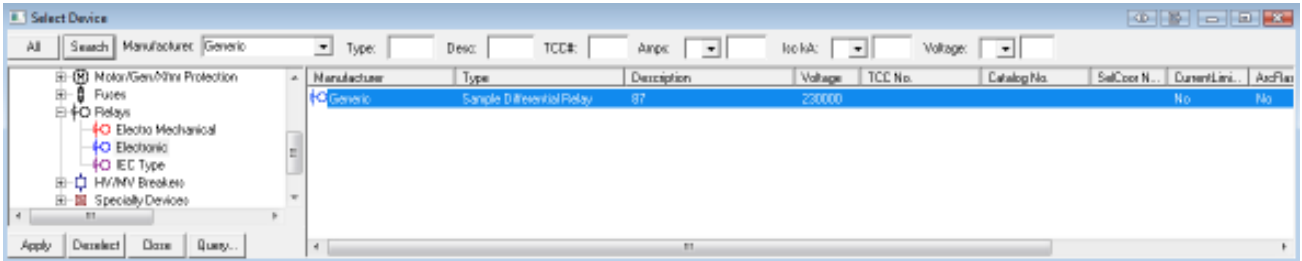

Figure 8
- Once the summation is displayed on top of the Functions button, click the Library button to select a generic model for this differential function, similar to the device in Figure 8. Click Apply and Close to review the TCC of the new differential function in Captor.